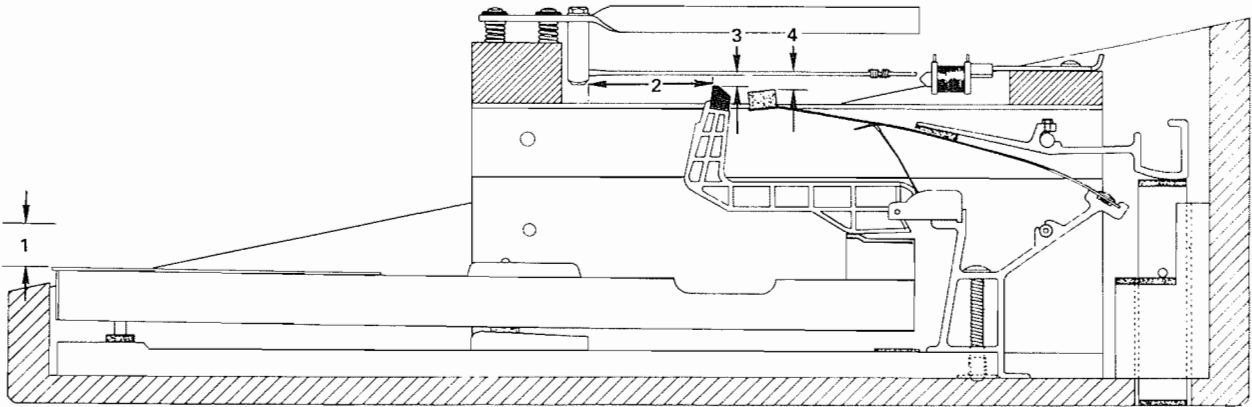
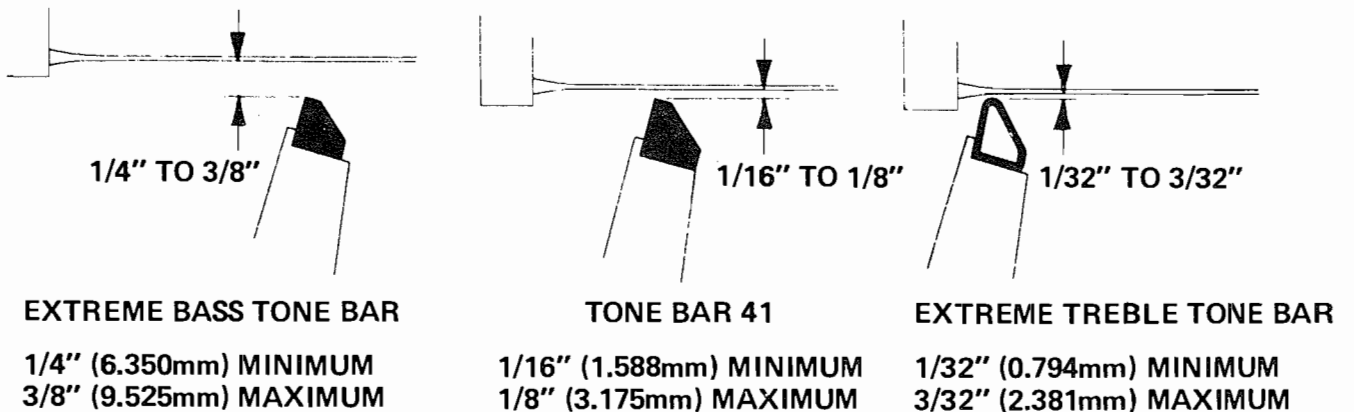

Figure 4-1. RHODES Modular Action — Single Key Depressed
Figure 4-2. Escapement Distances
1. Key Dip. The distance of downward travel of the Key Front (Figure 4-1, 1) is called "Key Dip." This dimension should be  $3/8" \pm 1/32"$ , that is, from  $11/32"$  to  $13/32"$  ( $9.525 \pm 0.794\text{mm}$  or  $8.731\text{mm}$  to  $10.319\text{mm}$ ).
2. Escapement. The gap remaining between the Hammer Tip and the Tine (Figure 4-1, 3) with the Key depressed is called "Escapement". This Dimension varies from the extreme Bass (left) Tone Bar to the extreme Treble (right) Tone Bar and should be as follows (Figure 4-2).
the Damper is at the point of maximum Clearance (Figure 4-1, 4) allowing the Tine to vibrate unimpeded. Damper Clearance should be 3/8" to 1/2" (9.525mm to 12.700mm).
Proper Striking Line is assured by setting the Harp in such a way as to arrive at an approximate dimension of 2-1/4" (57.150mm) between the leading edge of the Hammer Tip and the leading edge of the Tone Generator (Figure 4-1, 2). This dimension should be taken at the extreme Bass (left) Tone Bar. At the extreme Treble (right) Tone Bar, this dimension is approximately 1/8" (3.175mm).